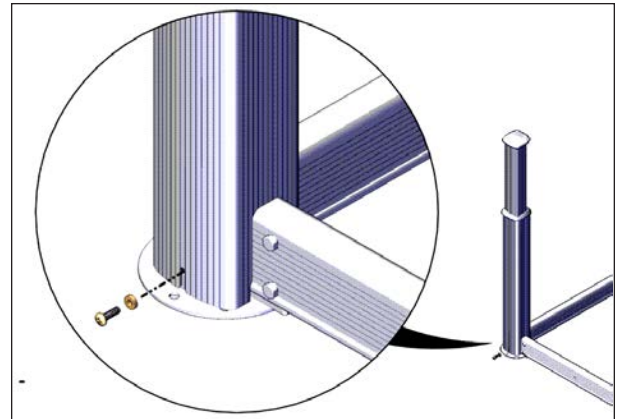

FIGURE 94: SLEEVE BOTTOM SCREW
1. Remove the lower sleeve screw. The screw is visible when facing the post see Figure 94.